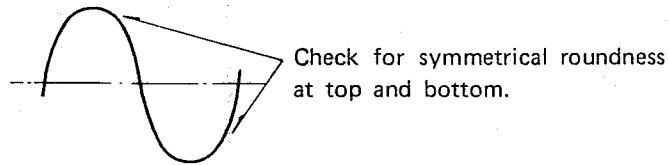
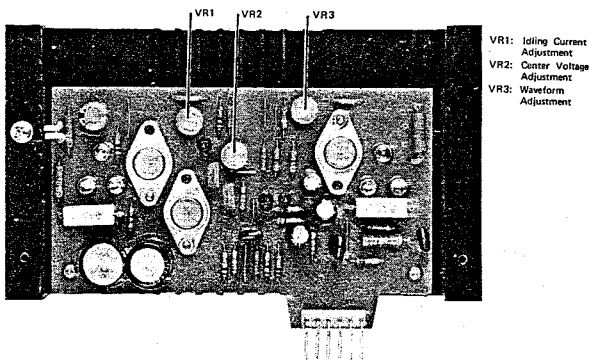

Figure 5. Output Waveform
Figure 6. MA Circuit Board
3. Adjust the VR3 as shown in Figure 6 to achieve a waveform which is symmetrically rounded like that shown in Figure 5.